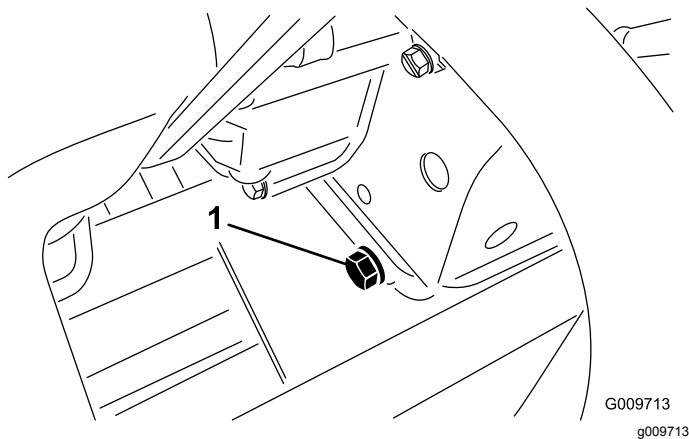

Figure 36
1. Remove the rear drain plug (Figure 36) and let the oil flow into a drain pan. When the oil stops, install the drain plug.